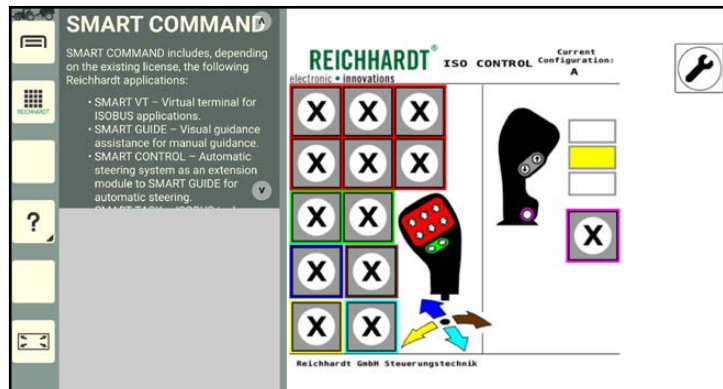

Fig. 73: Letting go of the application above the required window
2. Let go of the application above the required window (see Fig. 73).